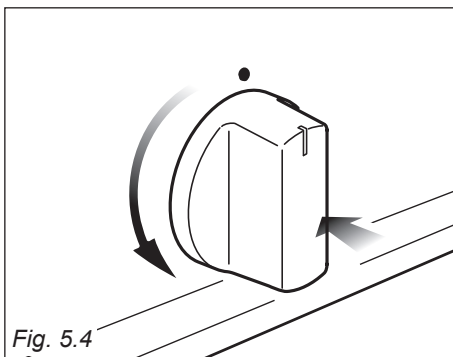

Fig. 5.4
2. Lightly press and turn the thermostat knob anti-clockwise (fig. 5.4) to max position **Max**★ (fig. 5.1). Press the knob firmly until the burner lights.